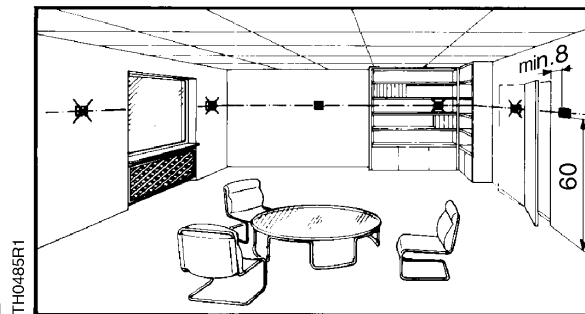

Figure 11. Acceptable Mounting Locations.
- Mount the unit on a wall of the room to be heated or cooled. Do not mount in direct sunlight or near other heat or refrigeration sources. (See Figure 11.)
- Mounting height is approximately 60 inches (150 cm) above the floor. (See Figure 11.)